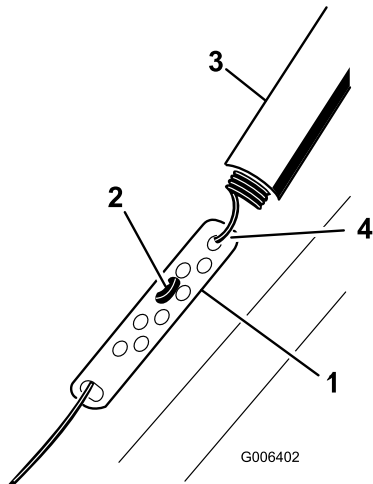

Figure 9
- Slide up the spring cover and unhook the spring from the adjuster link (Figure 9).
- Move the Z-fitting to a higher or lower hole on the adjuster link as needed to obtain the 1/16-inch to 1/8-inch (2 mm to 3 mm) gap between the control bar and the handle (Figure 9).